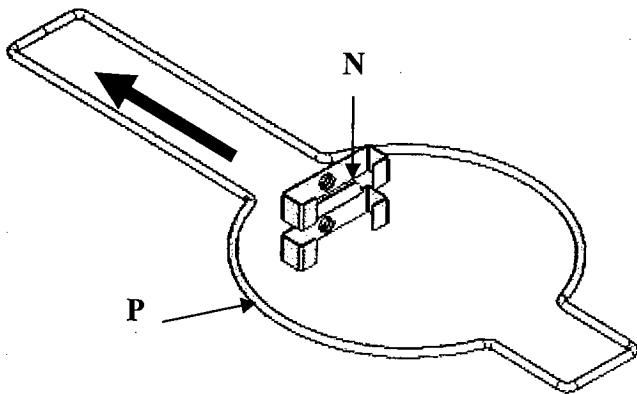
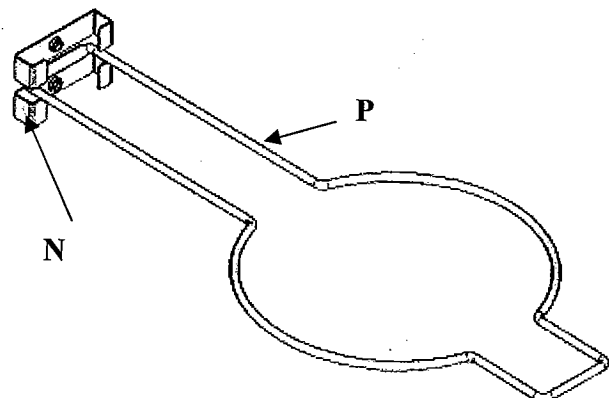
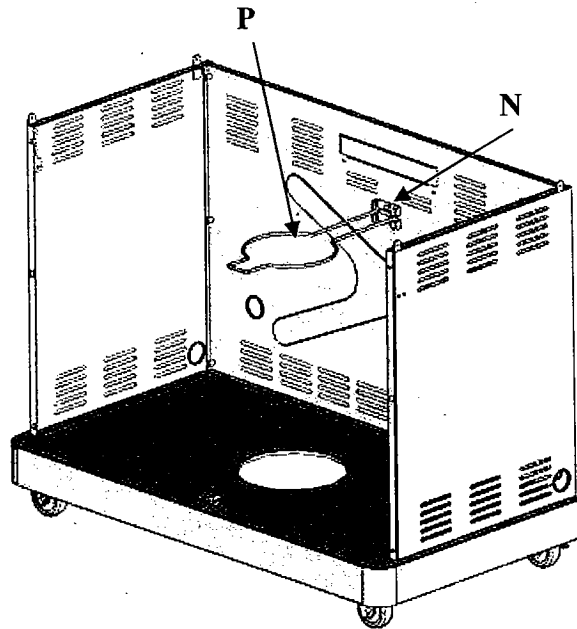

Fig. 6a
Fig. 6b
Fig. 7
Refer to Fig. 6a and Fig. 6b, slide the tank ring bracket (N) to the end of the tank ring (P) as shown. Then align the holes in the ring bracket with rear panel (M), insert 1/4-20 x 5/8-in screws into the holes from outside of grill, and then tighten completely. (See Fig. 7)